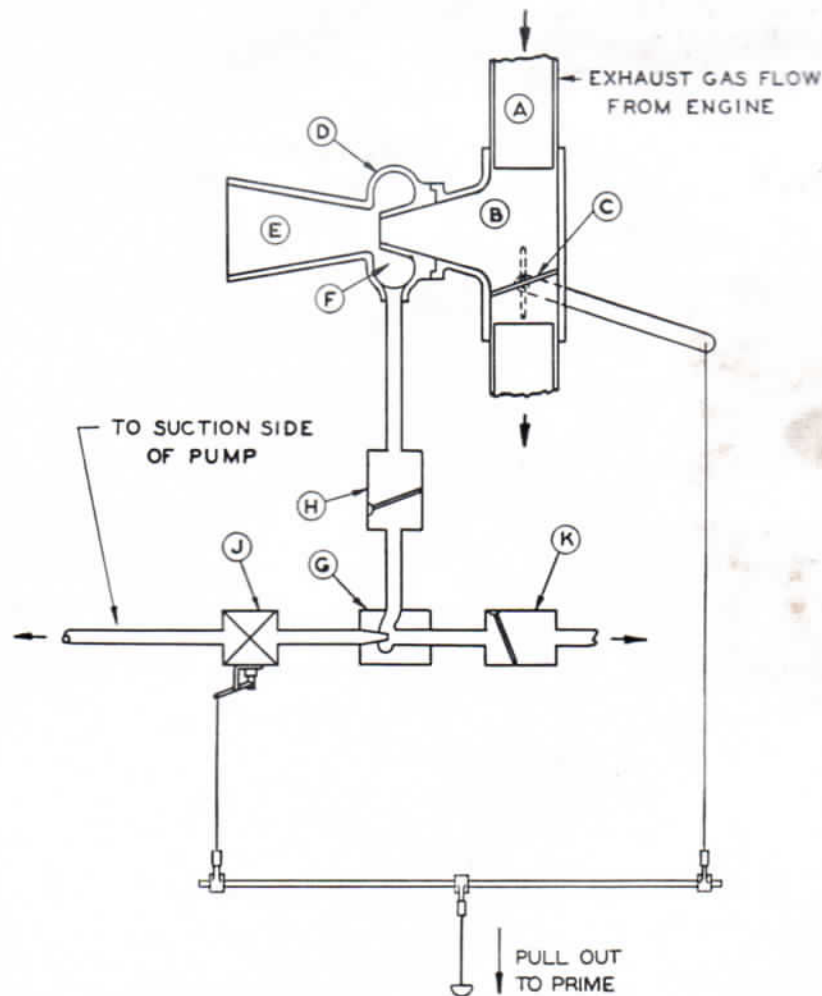

FIG. 7
The exhaust gases flow from the engine to atmosphere through the exhaust pipe "A" Fig. 7. In the exhaust pipe is a valve "B" which stops the normal exhaust flow by means of the butterfly "C," diverting the entire flow thru the conejector priming unit "D." The exhaust outlet area of the conejector "D" is greatly reduced which causes an engine back pressure. At full throttle with valve "C" closed (in priming position) this back pressure causes an ejector velocity at ejector outlet "E" just beyond the conical jet. This in turn creates vacuum in chamber "F." The vacuum chamber is connected to hydrant conejector "G," but separated by swing check "H" and to the pump through draft—hydrant valve "J."
6. Check the primer. (A) Look at the right hand tail pipe when the priming lever on the bottom of the pump panel is pulled out to be sure the exhaust gas is being diverted through the ejector. Little or no exhaust gas should leave the tail pipe with the lever out. If the butterfly valve in the exhaust pipe is not closed, inspect the operating shaft and rod linkage to determine and correct the cause of the trouble. (B) Check linkage to be sure the draft hydrant valve (J) Fig. 7 is open when priming lever is pulled out. If this valve is not open, readjust linkage to cause the valve to open when the lever is pulled out.